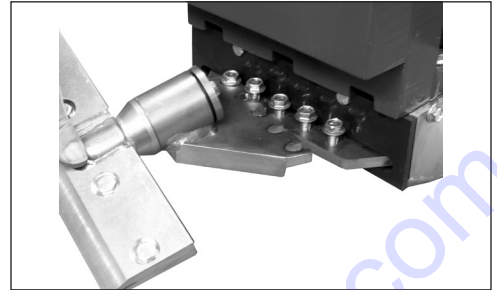

FIG. 8
1. Mount angle attachment onto the cutting head support (Figure 8).